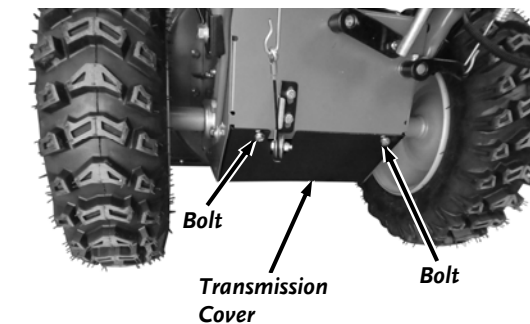

Figure 63
3. Remove the two Bolts that secure the Transmission Cover using a 13mm Wrench and Remove the Transmission Cover (**Figure 63**).
14. Install the Transmission Cover (**Figure 63**).